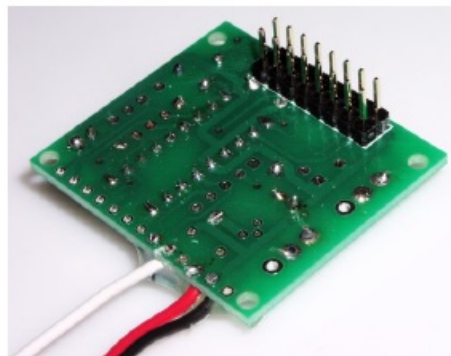

Figure 7
- To begin mount and solder the 5-pin 10K resistor pack (R1). Pin 5 (the last pin when reading the text on the resistor) should go in the top hole of R1 on the PCB. Mount and solder the 20K potentiometer at R2. Next mount and solder the two. 1uf 50V capacitors (C1 & C2), followed by C3, the 10uf 16V capacitor. Depending on the casing of the unit, this capacitor may need to be bent flat before soldering, as shown in the completed circuit, Figure 7 on the next page.
- The two 8-pin headers should be mounted and soldered to the underside of the PCB at D2, as shown in Figure 7 on the right. Place the LCD down onto the headers and solder into place.